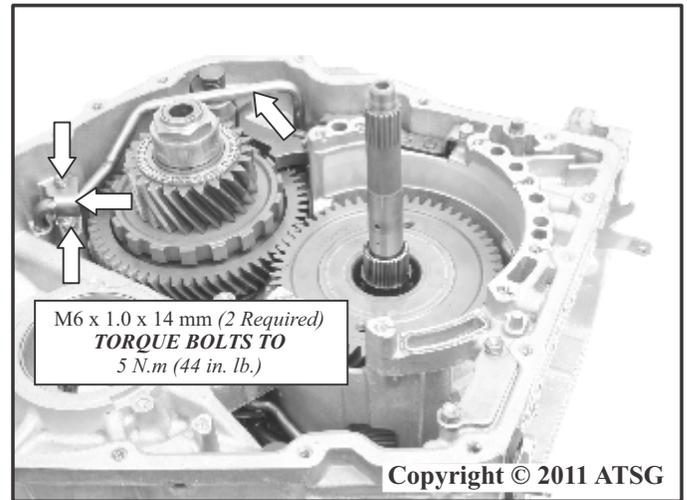

Figure 238
66. Install two new O-rings onto the third gear (B4) apply pipe as shown in Figure 238.
67. Coat the O-rings with a small amount of Trans-Jel® and install the pipe into the transmission as shown in Figure 238.
68. Install the apply pipe hold down bracket and the two hold down bracket retaining bolts  $M6 \times 1.0 \times 14 \text{ mm}$  as shown in Figure 238.
69. Torque the bolts to  $5 \text{ N.m}$  ( $44 \text{ in. lb.}$ ) as shown in Figure 238.